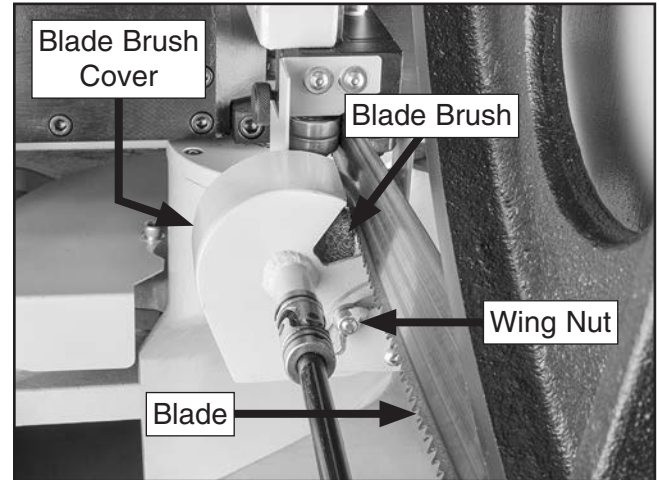

Figure 95. Blade brush adjustment components.
3. Loosen wing nut on blade brush adjustment bracket (see **Figure 95**).
4. Adjust blade brush and cover so blade extends approximately 1/8" into bristles of brush, then tighten wing nut (see **Figure 95**). Hole in bracket is slotted for easy adjustment.